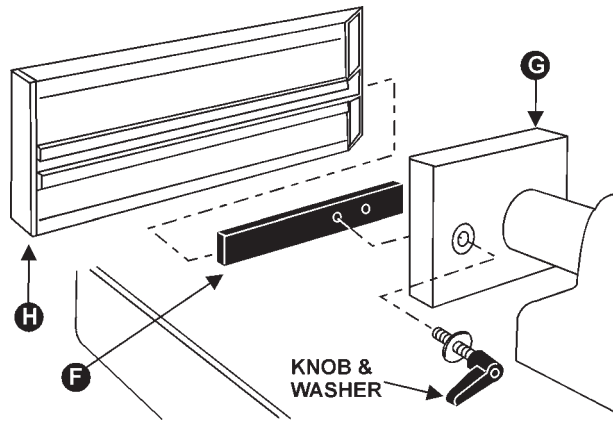

FIGURE 5
2. Attach the lock blocks (F) to the connection plates (G) with the knobs and washers, Figure 5. Slide the aluminum fences (H) onto the lock blocks (F) as shown.